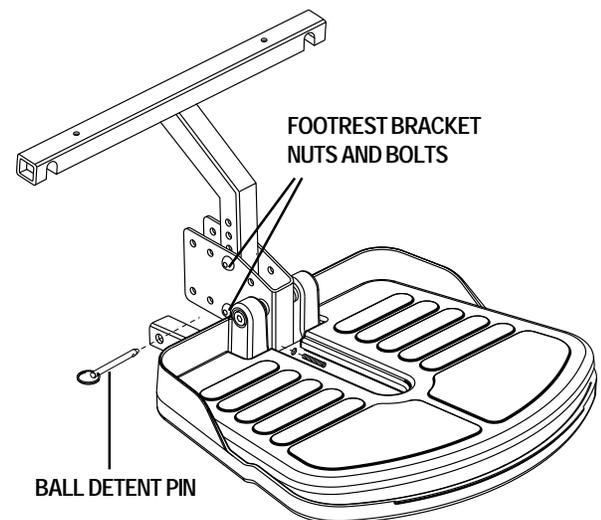

Figure 10. Footrest (Shroud removed.)
1. Remove the nuts and bolts from bracket. See figure 10.
1. Remove the nuts and bolts from the bracket. See figure 10.